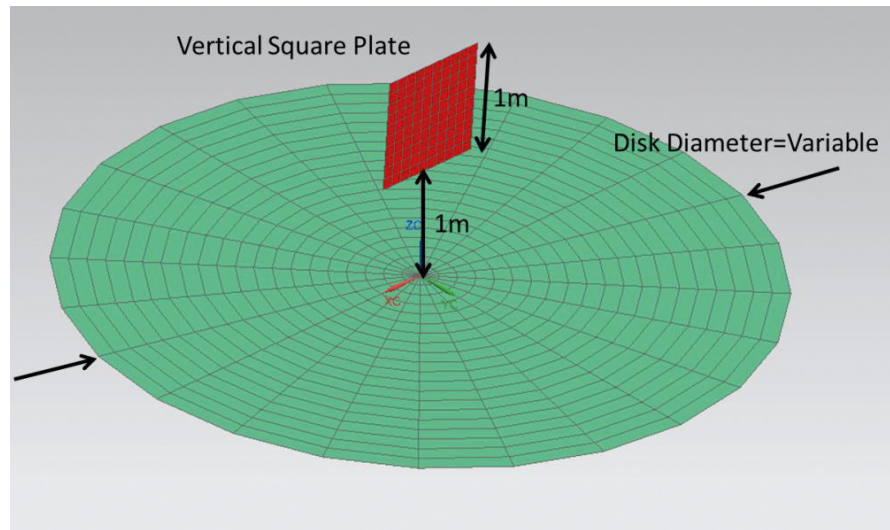
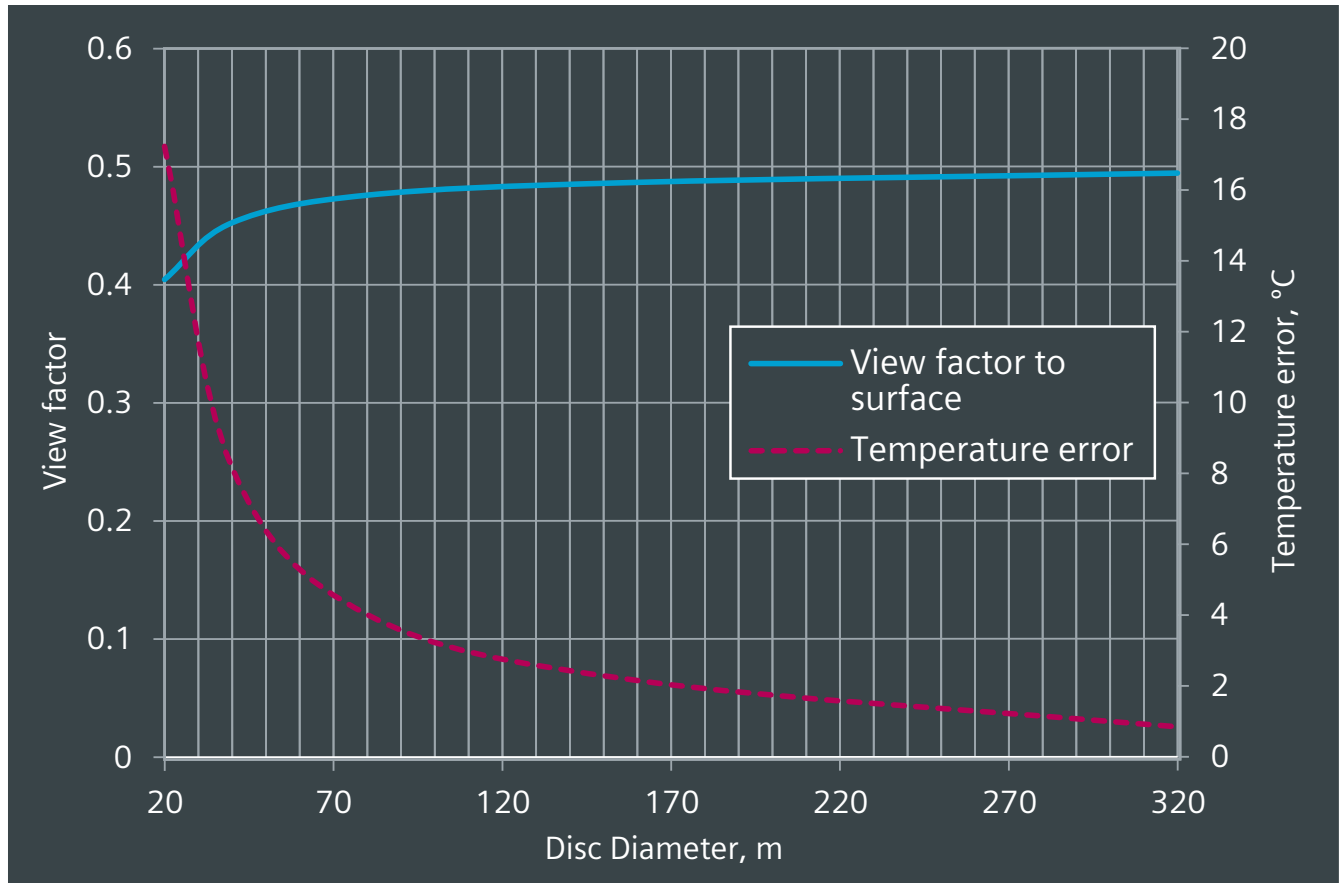

Figure 2: Simple plate over disk model
Figure 3: Effect of lunar surface disc diameter
A simple model was built consisting of a one meter square, vertical plate over a horizontal disk. The plate was centered on the disk with the bottom edge one meter above the disk, see figure 2. Disk and plate were perfect black bodies which radiated to each other and the space environment. Using the exact view factor for a small plate level with a sphere, a one meter square vertical plate one meter above the surface of the moon will have a view factor to the lunar surface of 0.4993. If the lunar surface is at 400 kelvin (K), (typical maximum at the equator), the plate will be at 336.2K. The model was solved for various diameters of disk and the average plate temperature determined and used to calculate the view factor to the disk. The results are shown in figure 3. For the equatorial region a disk diameter of about